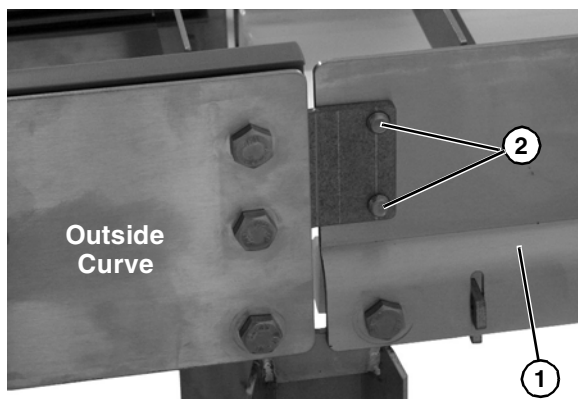

Figure 18
- Secure straight section (**Figure 18, item 1**) onto curved section with two hex head bolts (**Figure 18, item 2**) with bolt heads to the inside as shown.